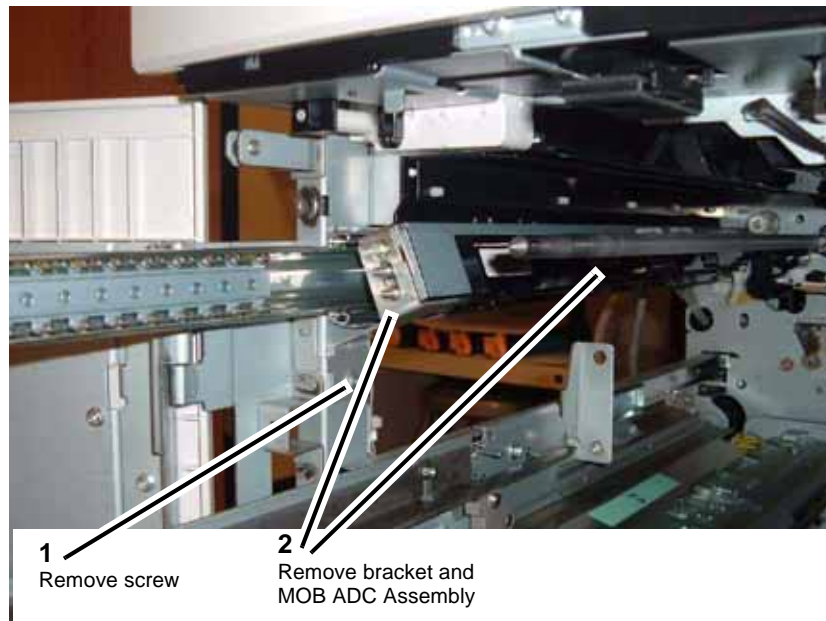

Figure 6 Removing the MOB ADC Assembly
11. Remove the MOB ADC Assembly (Figure 6).